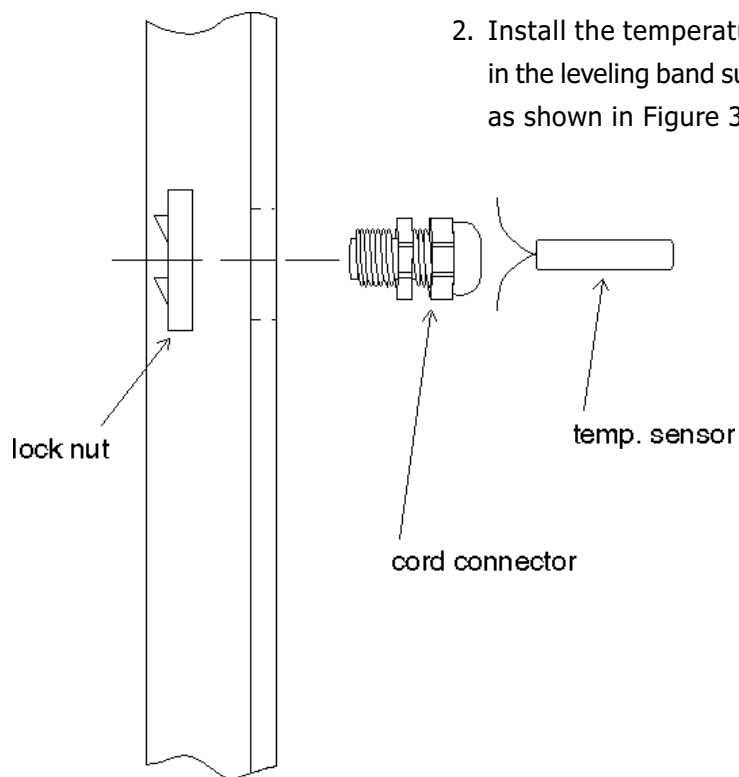

Figure 3.
2. Install the temperature sensor in the leveling band support post as shown in Figure 3.